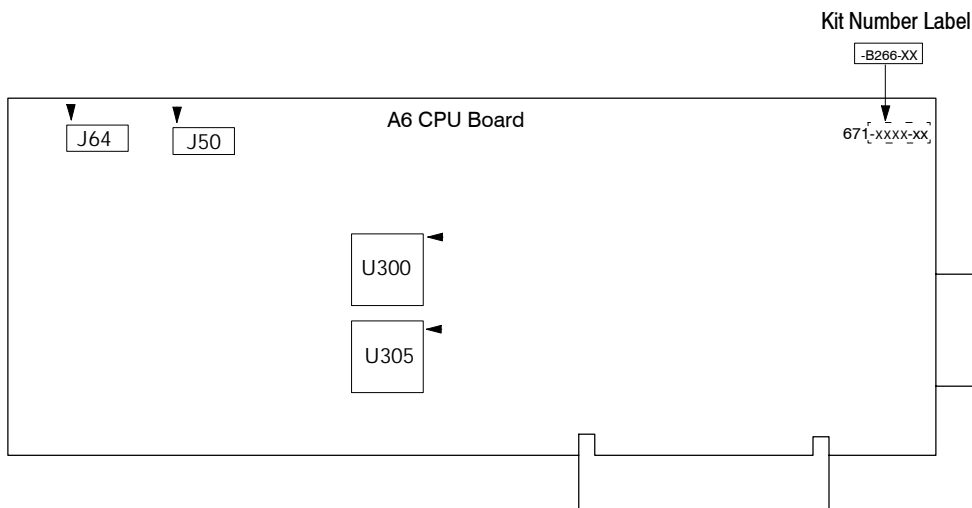

Figure 5: ROMs and board kit number locations on the A6 CPU Board
- 13.** Using an IC remover, remove the two ROMs (U300 and U305) below firmware version 3.00 from the A6 CPU board. See Figure 5.
- 14.** Install the two ROMs (U300 (1) and U305 (2)) for firmware version 3.00 on the A6 CPU board.
- 15.** Paste the Kit Number Label (3) on the A6 CPU board as shown Figure 5.